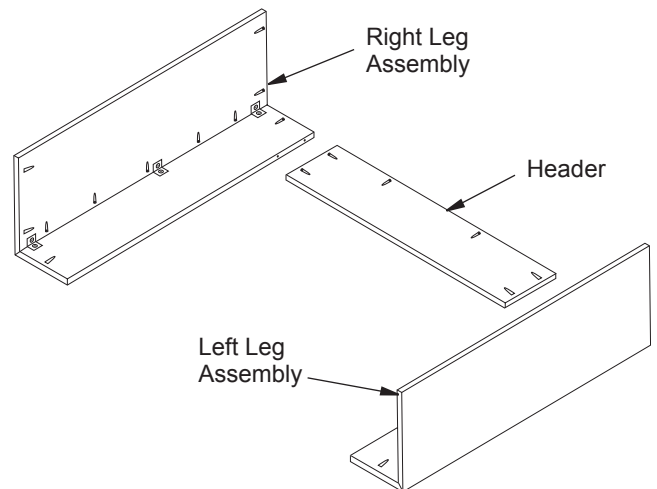
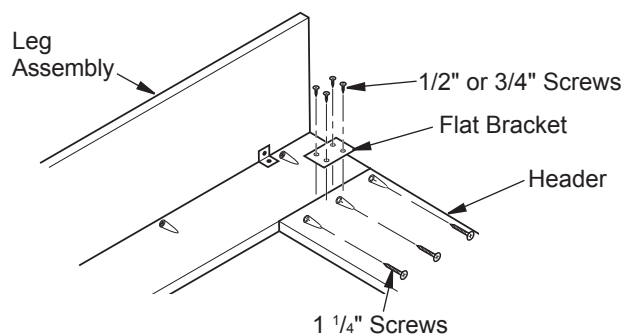

Figure 3 - Installing Header
Figure 4 - Attaching Header to Leg Assembly (Mantel May Vary from Illustration)
3. For all models, place header between right and left leg assemblies (see Figure 3). Make sure header and legs are snug against each other. The top of header must be flush with tops of leg assemblies. Attach header using 1 1/4" in pocket holes on each leg assembly as shown in Figure 4. Be sure you have proper alignment between the header and leg assemblies. Attach flat brackets with 1/2" or 3/4" screws using 1 flat bracket and 4 screws per side (see Figure 4).